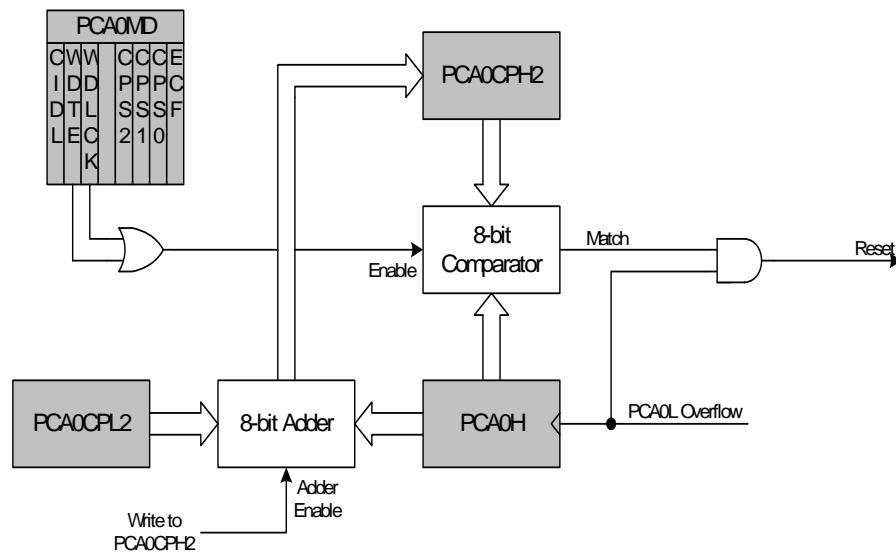

Figure 33.11. PCA Module 2 with Watchdog Timer Enabled
While the WDT is enabled, writes to the CR bit will not change the PCA counter state; the counter will run until the WDT is disabled. The PCA counter run control bit (CR) will read zero if the WDT is enabled but user software has not enabled the PCA counter. If a match occurs between PCA0CPH2 and PCA0H while the WDT is enabled, a reset will be generated. To prevent a WDT reset, the WDT may be updated with a write of any value to PCA0CPH2. Upon a PCA0CPH2 write, PCA0H plus the offset held in PCA0CPL2 is loaded into PCA0CPH2 (See Figure 33.11).